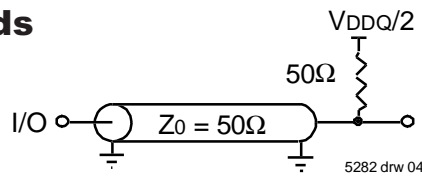

Figure 1. AC Test Load
| Output Load | Figure 1 |
3. These parameters are guaranteed with the AC load (Figure 1) by device characterization. They are not production tested.